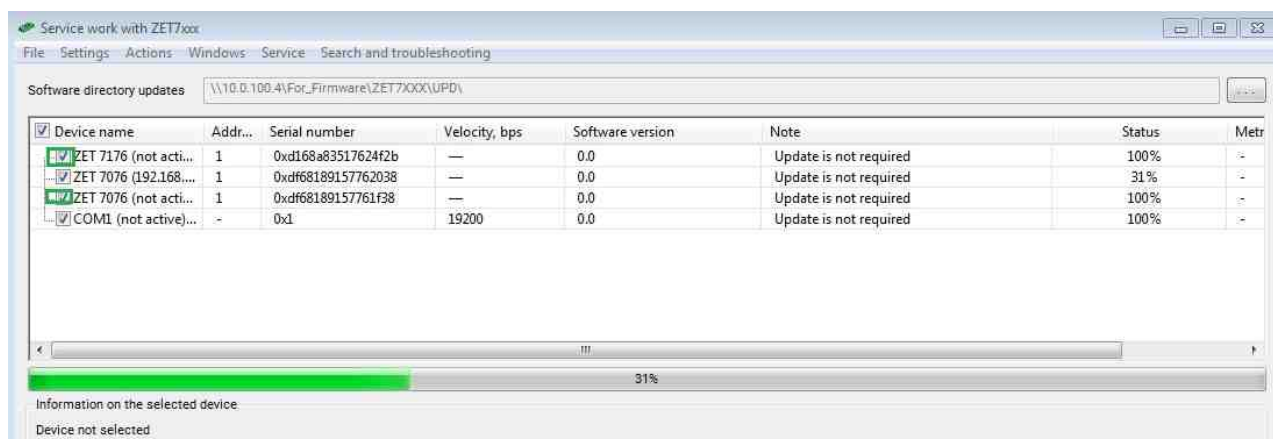

Fig.8.1 Select devices for operation in OPC server mode
1. It is necessary to mark with a tick symbol those identifiers of interface converters that should work in this mode (Fig.8.1).